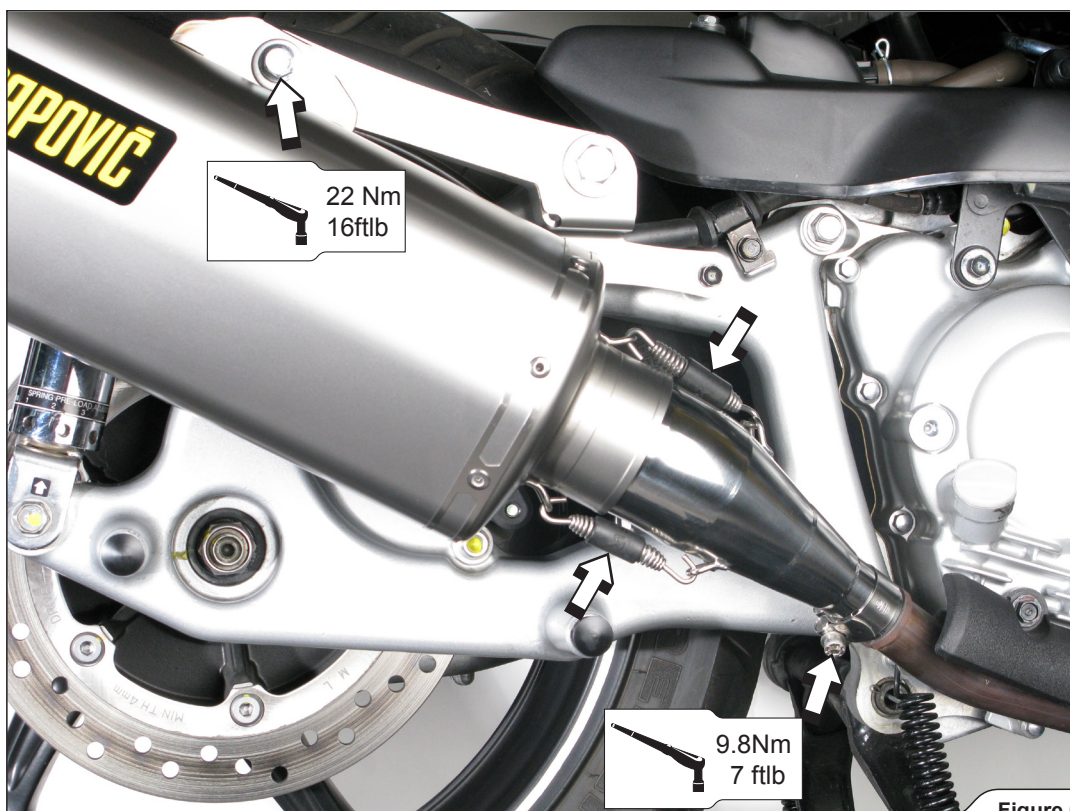

Figure 6
4. Position the muffler correctly and slide it onto the outlet side of Akrapovič link pipe and attach the springs. Align the muffler in respect the scooter and tighten the muffler's bracket bolt, using Akrapovič bolt and washer. Tighten the metal clamp at the Akrapovič link pipe/stock header pipe joint to a specified torque (Figure 6).